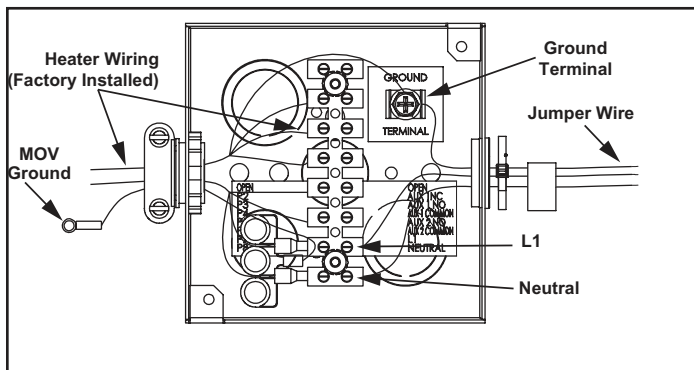

Figure 56. Electrical Wiring - Junction Box
The 120-VAC hot wire from the power supply must connect to the black jumper wire or the "L1" terminal block location in the junction box and the 120-VAC neutral wire must connect to the white jumper wire or the "Neutral" terminal block location in the junction box for correct polarity. See **Figure 56** (page 41).
3. Connect the 120-VAC hot wire from the power supply to the black jumper wire or the terminal block location marked "L1" inside of the junction box located on top of the water heater. If the black jumper wire is used, make the connection inside of the junction box with a properly-sized wire nut. Wrap electrical tape around the wire nut and wire end. See junction box **Figure 56** and the wiring diagram **Figure 69** (page 71).
4. Connect the 120-VAC neutral wire from the power supply to the white jumper wire or the terminal block location marked "Neutral" inside of the junction box located on top of the water heater. If the white jumper wire is used, make the connection inside of the junction box with a properly sized wire nut and wrap electrical tape around the wire nut and wire end. See junction box **Figure 56** and wiring diagram **Figure 69** (page 71).
5. Connect the ground wire from the power supply to the grounding lug inside the junction box. See the junction box in **Figure 56** and the wiring diagram **Figure 69** (page 71).